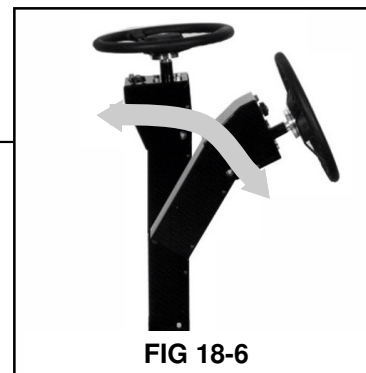

FIG 18-6
**LOWER STEERING COLUMN TILT**— To ease exit and entry, entire steering column tilts out of the driver's way. To operate the column base tilt, locate the foot pedal at the base of the steering column (fig. 18-3) and press down to release the column base lock. Pull or push the column to the desired position and release the foot pedal to re-lock the column base (fig. 18-6)